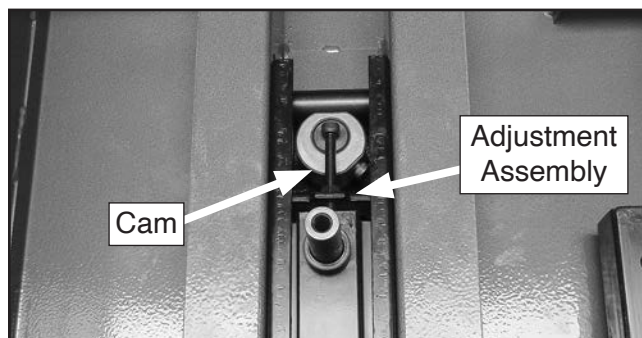

Figure 91. Lubrication locations for tension adjustment assembly (wheel removed for clarity).
3. Use a rag and mineral spirits to wipe off any grease and sawdust build-up on blade tension adjustment assembly and tension lever cam (see **Figure 91**), then apply thin coat of lubricant to these areas.